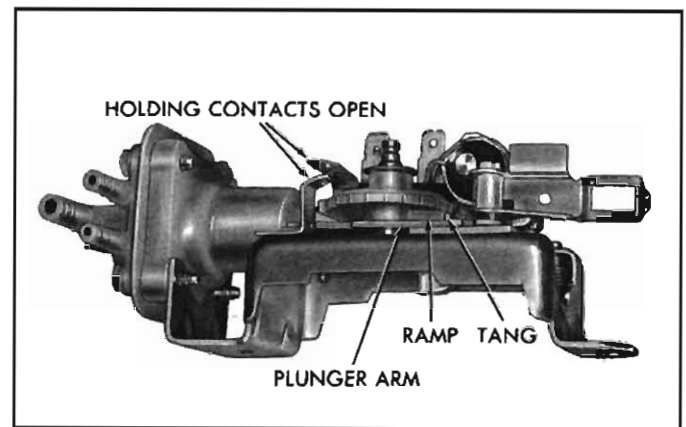

Fig. 8-24—Releasing Pump From Lockout Position
- b. Manually operate pump clockwise to release pump from "lock-out" position (fig. 8-24).